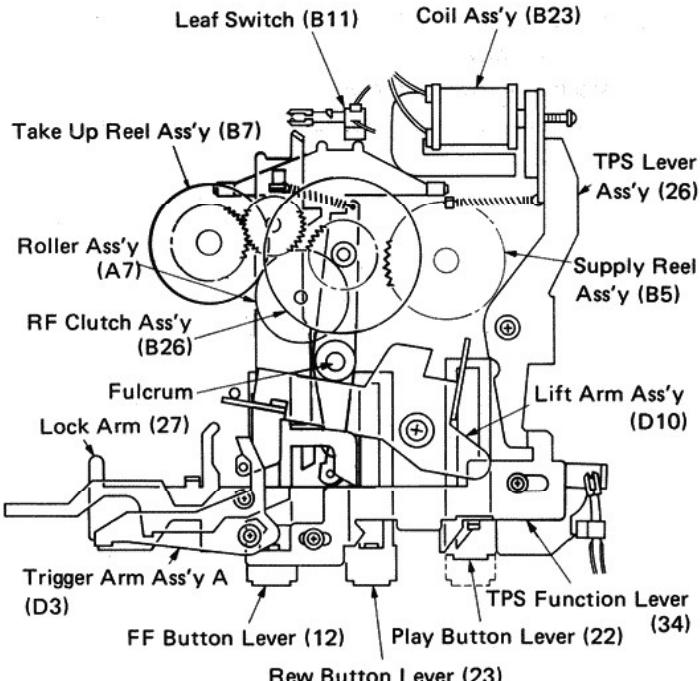

Fig. 25
Fig. 25 shows the status of the TPS-related mechanism in the PLAY mode. (Fig. 25)
- When current does not flow into the coil assembly (B23) because of a no-signal section between tunes, the coil assembly (B23) releases the TPS lever assembly (26). Therefore the rewind button lever assembly (15) having been locked by the TPS function lever (34) is restored to the PLAY condition. (Fig. 25)